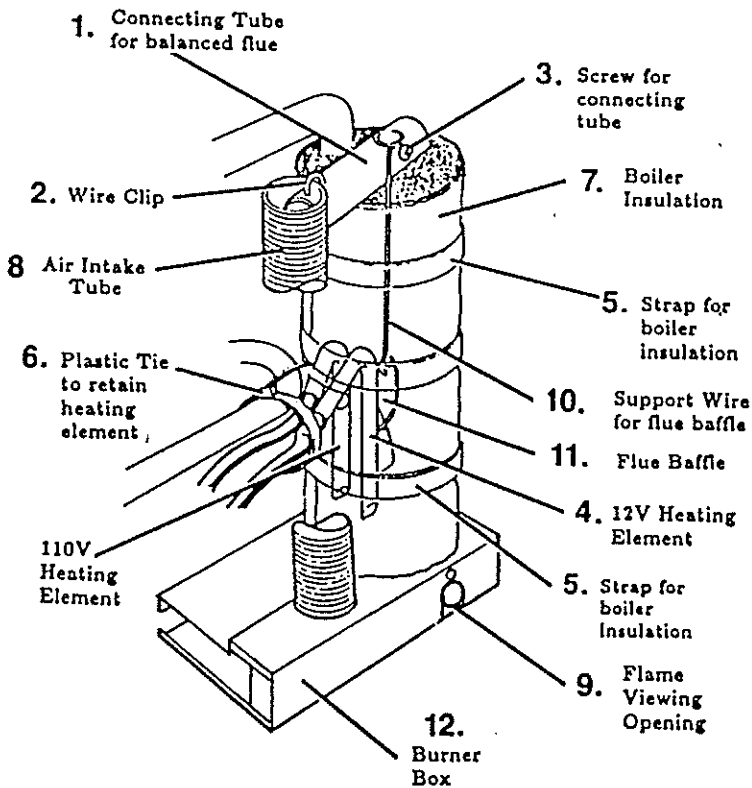

FIG. 17
Remove the faulty heater and fit the new one as follows (see FIG. 17, Page 14).
2. Disconnect the boiler insulation retaining straps (FIG. 17, Page 14)
3. Remove the screw (3, Fig. 17) from the horizontal tube at the top of the flue.
4. Remove the wire clip (2) from the top of the flexible air intake tube, by pulling it upward.
To gain access to the flue baffle, take off the horizontal (metal) connecting tube (1, Fig. 17) at the top of the balanced flue after removing screw (3, Fig. 17). The baffle support wire will then be seen and this can be lifted upward, out of the flue tube, together with the baffle.